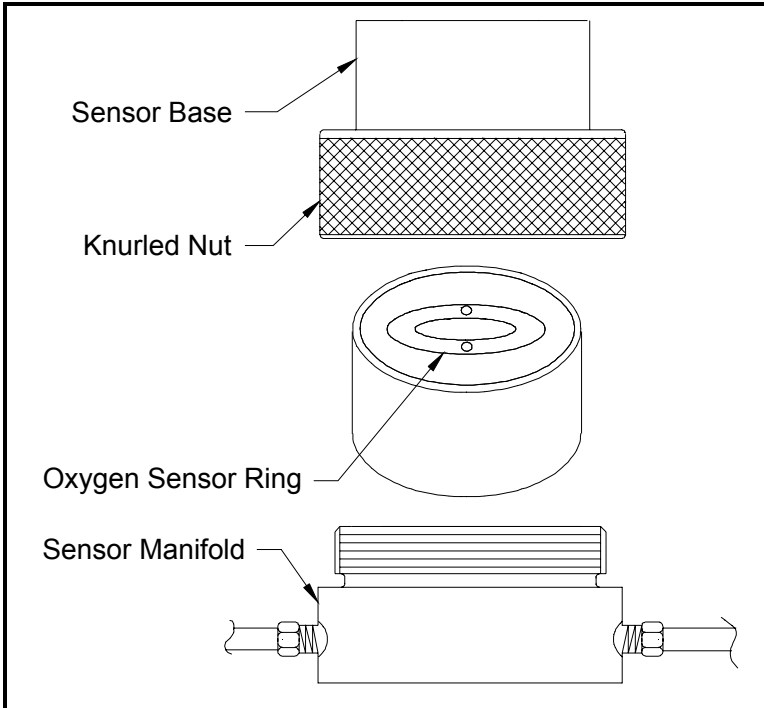

Figure 7: Oxygen Sensor Installation
To install a new or replacement oxygen sensor in the O2X1, refer to Figure 7 below and complete the following steps:
6. Orient the sensor so that its gold-plated electrodes are facing the spring-loaded contact pins in the sensor base (see Figure 7 on the previous page). Firmly press the oxygen sensor into the sensor base on the O2X1 transmitter.